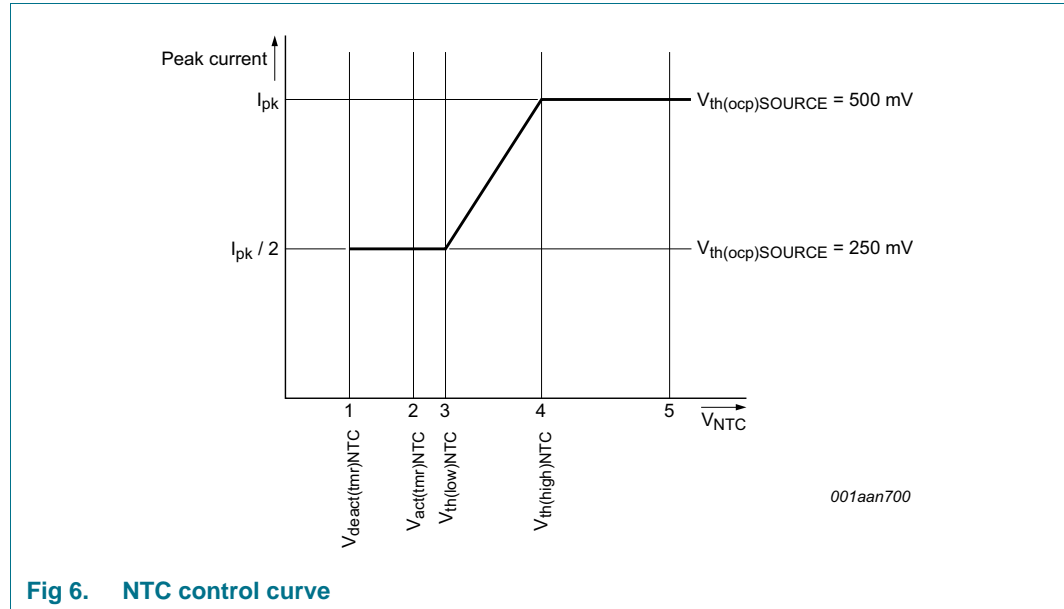

Fig 6. NTC control curve
The NTC pin can be used as a control method for LED thermal protection. Alternatively, the pin can be used as an input to disable/enable light output using a digital signal (PWM regulation). The pin has an internal current source that generates the current of $I_{\text{offset}(\text{NTC})}$. An NTC resistor to monitor the LED temperature can be connected directly to the NTC pin. Depending on the resistance value and the corresponding voltage on the NTC pin, the converter reacts as shown in Figure 6.
When the voltage on the NTC pin exceeds $V_{th(high)NTC}$ (see Figure 6 \(4\)), the converter delivers nominal output current. When the voltage is lower than this level, the peak current is gradually reduced until $V_{th(low)NTC}$ is reached (see Figure 6 \(3\)). The peak current is now half the peak current of nominal operation. When $V_{act(tmr)NTC}$ is passed (see Figure 6 \(2\)), a timer starts to run to distinguish between the following situations:
- If the low-level $V_{deact(tmr)NTC}$ is not reached within time $t_{to(deact)NTC}$ (see Figure 6 \(1\)), LED overtemperature is detected. The IC stops switching and attempts to restart from the HV pin voltage. The converter restarts from an NTC protection shutdown when the voltage on the NTC pin exceeds $V_{th(high)NTC}$ (see Figure 6 \(4\)). It is assumed that the reduction in peak current does not result in a lower NTC temperature and LED OTP is activated.
- If the low-level $V_{deact(tmr)NTC}$ is reached within the time $t_{to(deact)NTC}$ (see Figure 6 \(1\)) it is assumed that the pin is pulled down externally. The restart function is not triggered. Instead, the output current is reduced to zero. PWM regulation and consequently output LED current regulation can be implemented this way. The output current rises again when the voltage exceeds $V_{th(low)NTC}$.
The NTC pin can be used to make a soft start function. During switch-on, the level on the NTC pin is low. By connecting a capacitor (in parallel with the NTC resistor), a time constant can be defined. The time constant causes the level on the NTC pin to increase slowly. When passing level $V_{th(low)NTC}$ (see Figure 6 \(3\)), the converter starts with half of the maximum current. The output current slowly increases to maximum when $V_{th(high)NTC}$ (see Figure 6 \(4\)) is reached.